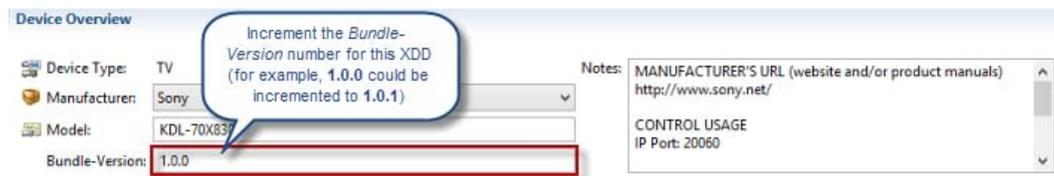

FIG. 17 Driver Design - Device Overview tab
3. When the imported XDD is opened in the Driver Design workspace, increment the *Bundle-Version* number in the *Device Overview* tab (FIG. 17):